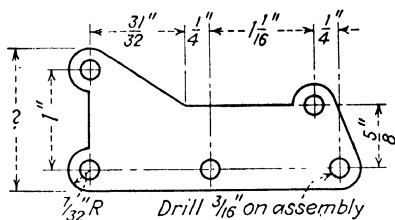

Fig. 40.
4. Convert each of the dimensions in Fig. 40 to decimals accurate to the nearest thousandth of an inch.
5. Find the missing dimension of the fitting in Fig. 40.